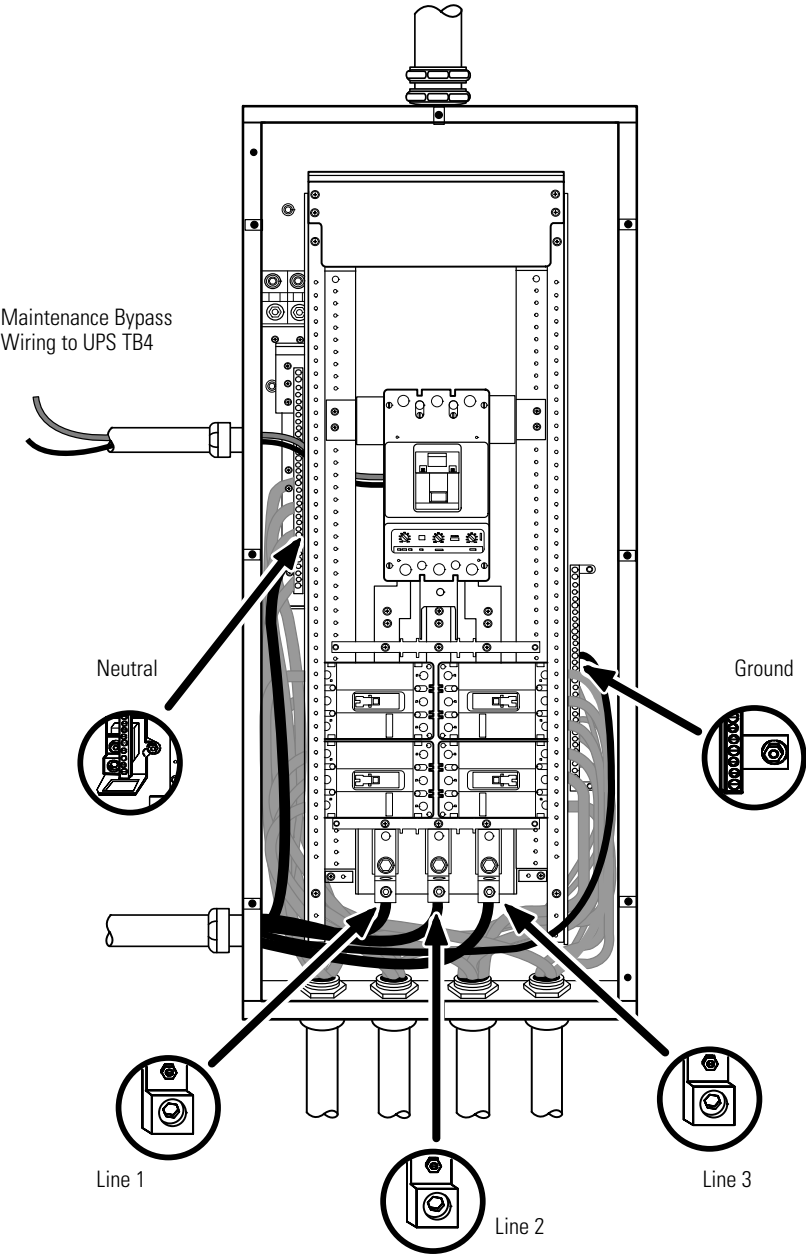
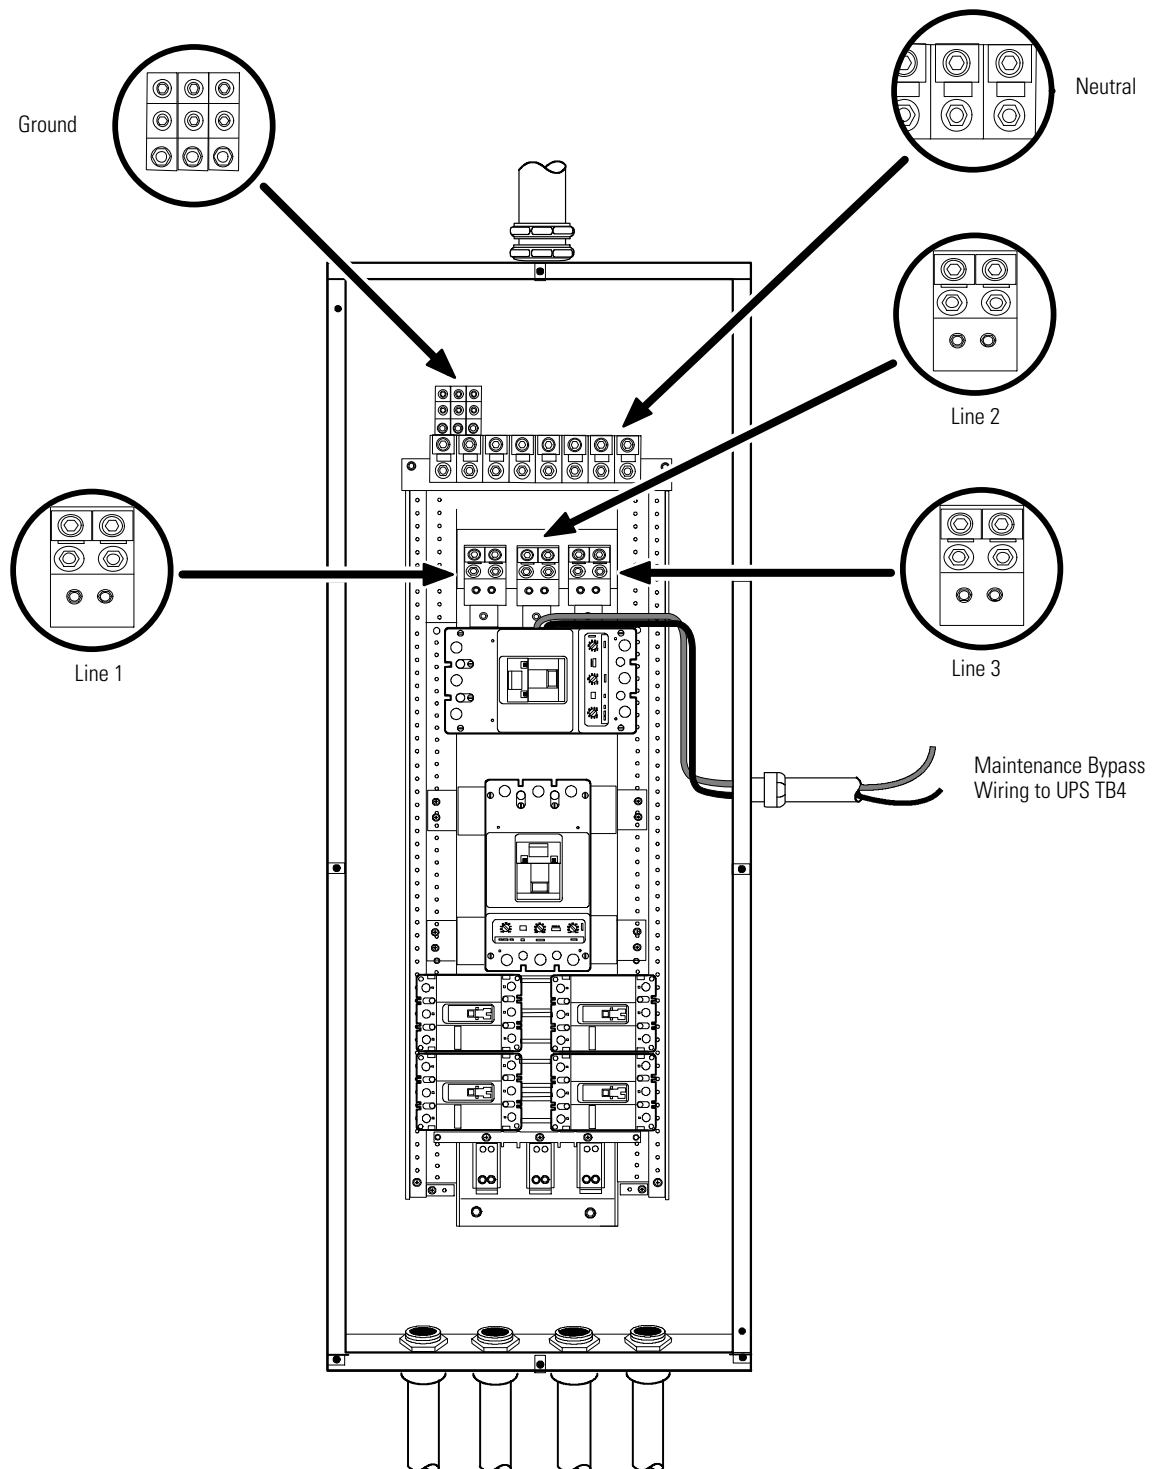

Figure 17. Bypass AC Input Wiring (Eaton Tie Cabinet Version 1 Shown)
Figure 18. Bypass AC Input Wiring (Eaton Tie Cabinet Version 2 with MIS Shown)
- 9.** Wire the AC input to the bypass breaker on the Tie Cabinet (see Figure 17 for Version 1 or Figure 18 for Version 2).